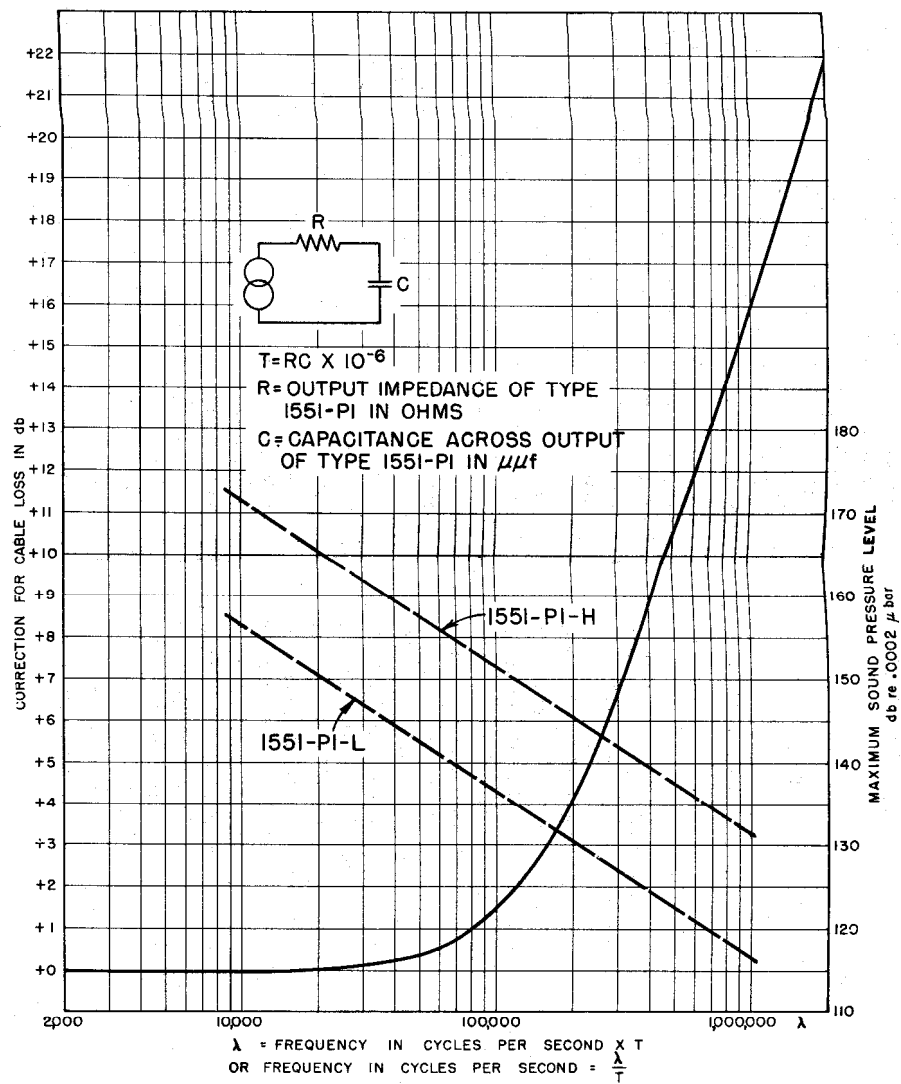

Figure 6. Cable-Correction Curve.
To determine the correction for an extension cable, multiply the frequency by T to get λ (the abscissa of Figure 6). Then read the db correction from the solid curve of Figure 6.
2.11.2 The use of a long cable not only requires a frequency correction, but also imposes a limit on the maximum sound-pressure level that can be accurately measured. This limit is due to the loading effect of the long cable on the small cathode-follower-type preamplifier in the microphone base. The limits imposed can be determined from the dotted curves of Figure 6. Using the example, where C equals $1375 \mu\mu f$ and T equals 9, we find that if measurements include high-level components up to 15 kc, λ equals 135,000, and the maximum sound-pressure level that can be accurately measured with the Type 1551-P1H System is 149 db. On the other hand, if the high-level components consist of moderately high frequencies (say nothing above 5 kc), the limit would be determined by $\lambda = 9$ times 5000 = 45,000, and would be 158 db. At frequencies below 1300 cycles where λ is less than 12,000, no limit is imposed by the cable.